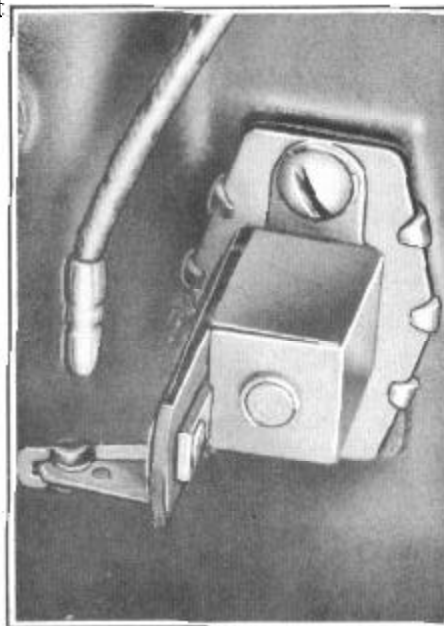

FIGURE 48
- E. If lamp is bright when transmission is in high gear; disconnect wire at shift rail switch Figure 48 if light goes dim shift rail switch is defective. Make Check No. 4 under unit checks. If light stays bright harness is defect